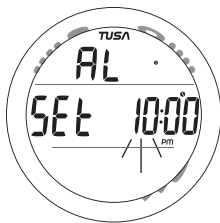

Fig. 22 - SET DAILY ALARM
**SET DAILY ALARM**, information provided includes (Fig. 22):